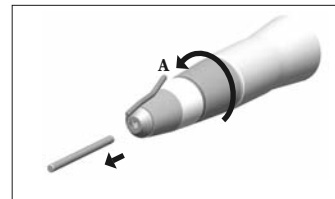

fig. 2
A: unlocking fig. 2
- Disconnect the instrument from the drive motor, withdraw the bur and leave the chuck mechanism in its open position (fig. 2)
- Remove the bur and leave the chuck mechanism in its open position (fig. 2).